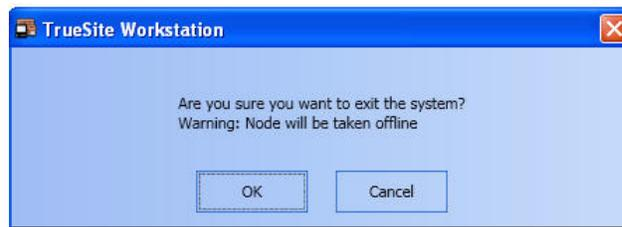

Figure 3-33 Exit Prompt Dialog Box on a TSW PC
3. An exit prompt dialog box displays a warning indicating that upon exit, the node will be taken offline (Figure 3-33). Click on **OK** to confirm.